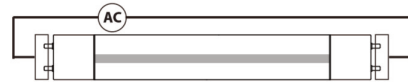

Figure 1. - Double-Ended connection
6. LED T5 lamps are designed for double-ended connections only (**Figure 1**).